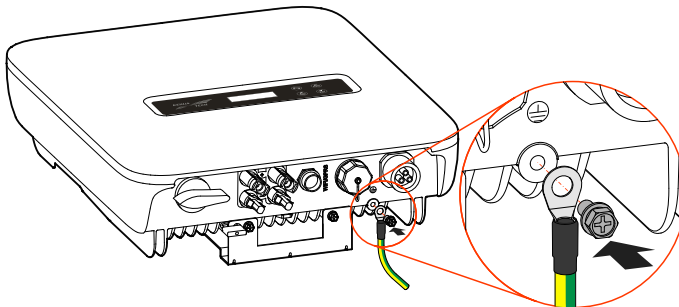

Figure3-15 External grounding wire connection
- Step 2 Connect the crimped grounding wire to the external grounding terminal, as shown in Figure3-15.